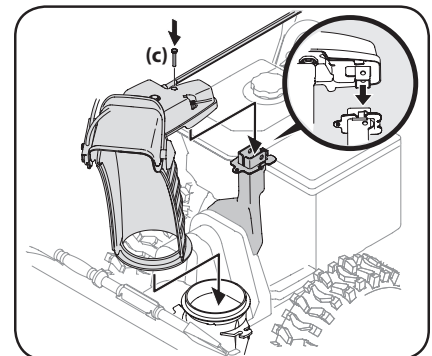

Figure 2-23
3. Place chute onto chute base and ensure chute control rod is positioned under handle panel. Install hex screw (c) removed in Step 1, but do not secure with wing nut at this time. See Figure 2-23.